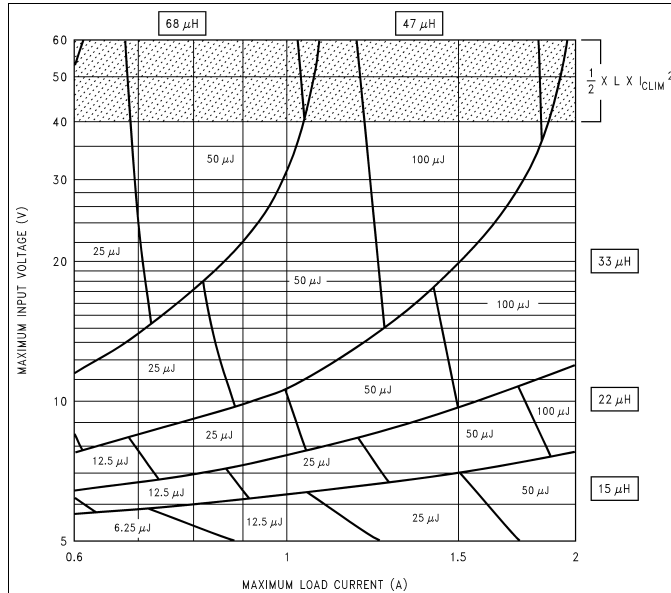
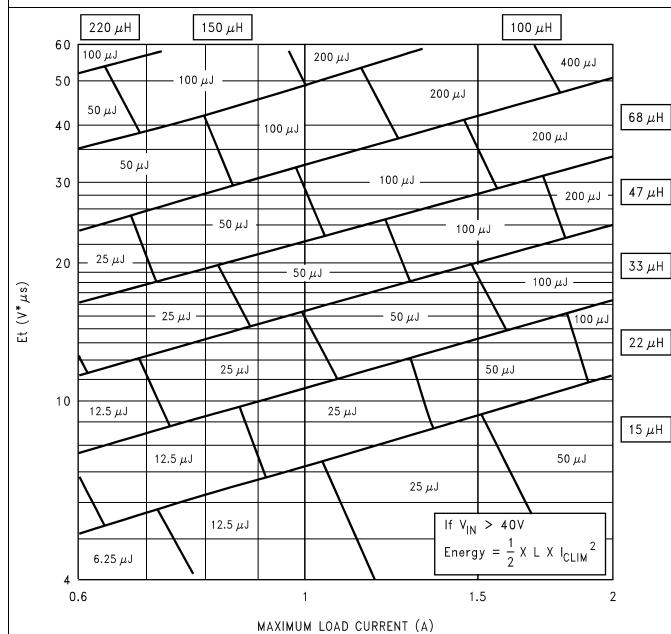

Figure 33. LM2593HV 3.3-V
Figure 35. LM2593HV Adjustable Voltage
See application note *AN-1197 Selecting Inductors for Buck Converters (SNVA038)* for detailed information on inductor selection. For a quick-start, see the nomographs provided in Figure 33 to Figure 35. To widen the choices to a more general selection of available inductors, the nomographs provide the required inductance and also the energy in the core expressed in microjoules (μJ), as an alternative to just prescribing custom parts. The following points must be highlighted:
5. Figure 35 shows the inductor selection curves for the adjustable version. The y-axis is Et , in $\text{V}\mu\text{s}$. It is the applied volts across the inductor during the ON time of the switch ($V_{\text{IN}} - V_{\text{SAT}} - V_{\text{OUT}}$) multiplied by the time for which the switch is on in μs . See Example 3.
1. Because input voltage is less than 40 V, a first pass inductor selection is based upon inductance and rated maximum load current. Choose an inductor with the inductance value indicated by the nomograph Figure 35 and a current rating equal to the maximum load. But first calculate Et for the given application. The duty cycle is Equation 5.
3. Therefore, looking at Figure 33, quick-select a 47- μH , 2-A inductor (designed for 150-kHz operation) for this application.
4. Confirm that it is rated to handle 200 μJ (see Figure 35) by the procedure shown in *AN-1197 Selecting Inductors for Buck Converters (SNVA038)* and that the losses are acceptable. (If the DC input voltage had been greater than 40 V, consider e_{CLIM} as in Example 2).